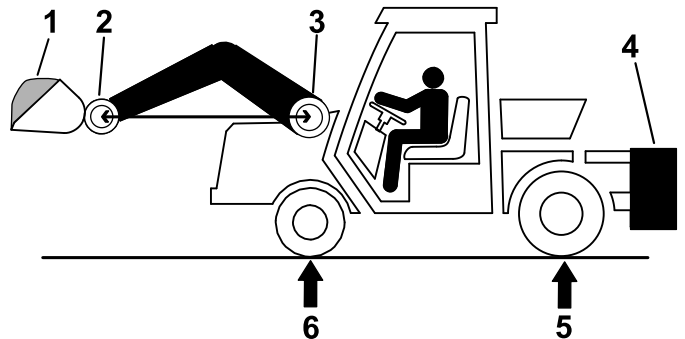

Figure 32
- Put a full load in the bucket, lift the bucket to the furthest position forward as shown in Figure 32.
- At a scale, measure the gross vehicle weight (GVW) at the front and rear axle, with the loader raised so that the bucket pivot pin is as high as the boom pivot pin (Figure 32).
Note: If R is **less** than required rear axle weight (RRAW), no ballast is required (Figure 32).